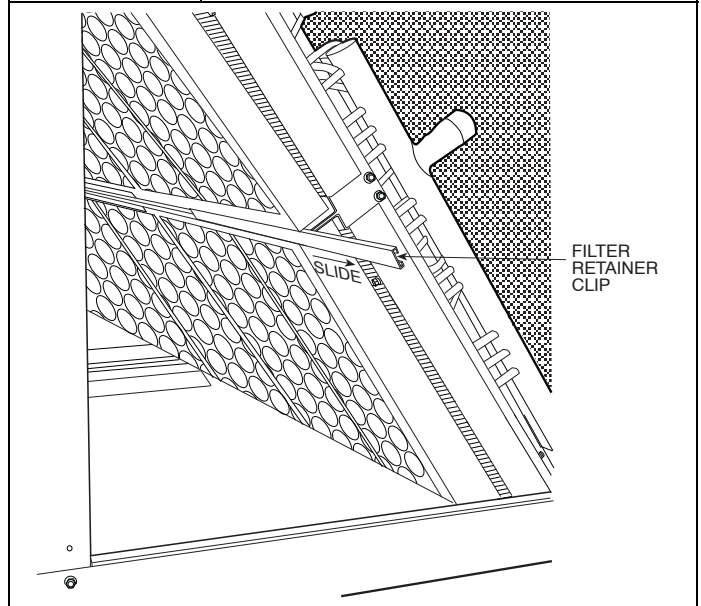

Figure 25
3. Remove old filters by lifting and tilting them out of the filter track (see Figure 25).